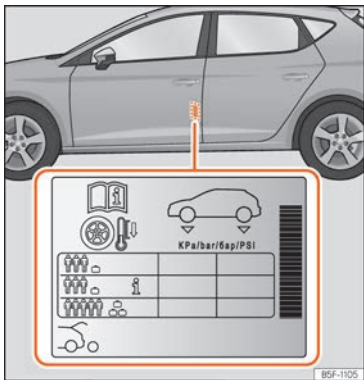

Fig. 323 Location of the tyre pressure sticker.
- Adjust tyre pressure to the load being carried by the vehicle »» **Fig. 323**.
The tyre inflation pressures are listed on a sticker on the rear of the front left door frame »» **Fig. 323**.
Depending on the vehicle, tyre pressure can be adjusted to medium load to improve driving comfort (tyre pressure **i**) »» **Fig. 323**. When driving with comfort tyre pressure fuel consumption may increase slightly.
The tyre pressure must be adjusted according to the load the vehicle is carrying. If the vehicle is going to carry the maximum load, the tyre pressure should be increased to the maximum value indicated on the sticker »» **Fig. 323**.
In the case of a minimised temporary spare wheel (125/70 R16 or 125/70 R18) inflate to a pressure of 4.2 bar as indicated on the tyre pressure label »» **Fig. 323**.
- The driver is responsible for ensuring that all of the vehicle tyres are correctly inflated to the right pressure. The recommended tyre pressure is indicated on the label »» Fig. 323.
- When the tyres are cold, tyre pressure should be that indicated on the label »» Fig. 323.